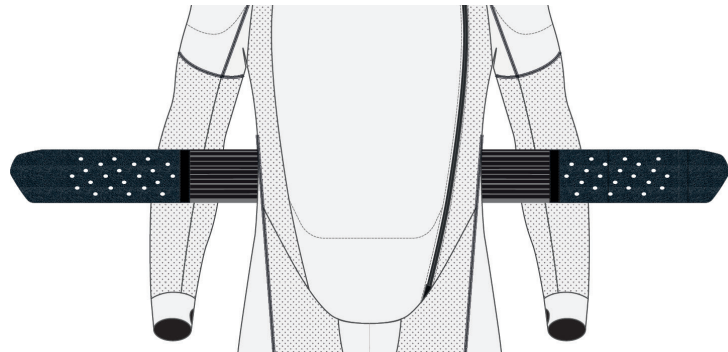

Figure 11
To keep the System turned off, keep the Activation Belt (4) open as shown in Figure 11. Always keep the System in this condition while stored, transported or shipped.